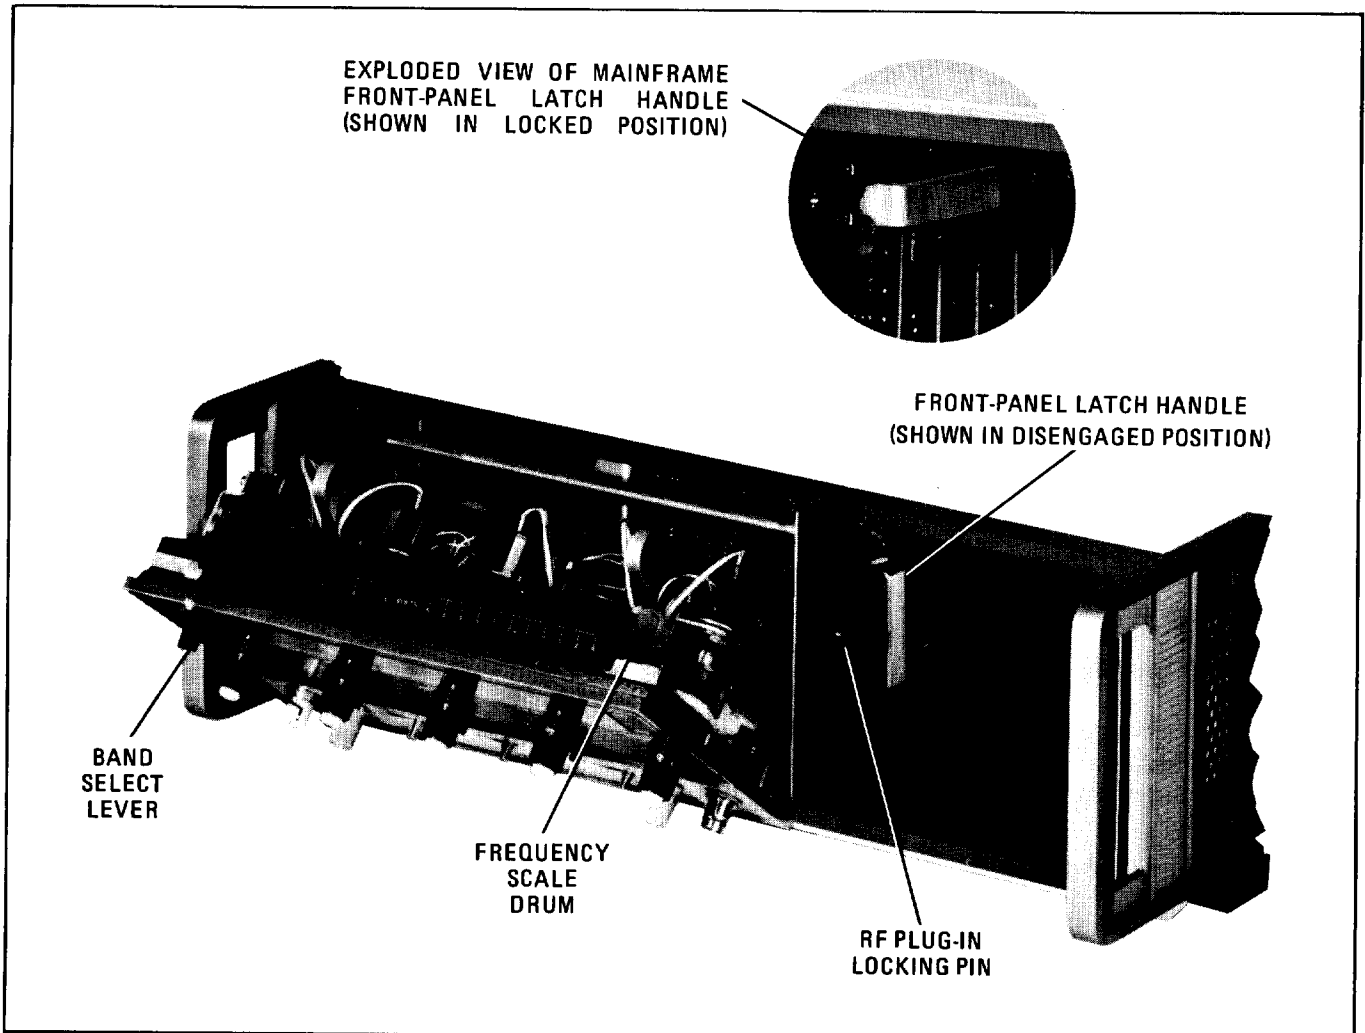

Figure 2-1. Location of Mainframe Parts Pertinent to Frequency Scale and RF Plug-In Installation
**If mainframe has two screws on top of the front panel (See Figure 2-1), RF Plug-In does not have to be removed. Remove both screws and go to step b.**
- a. Disengage mainframe front-panel latch handle, shown in Figure 2-1, by pushing downward on handle while pushing inward lightly on top of front panel.
- c. Depress mainframe front-panel BAND select lever, shown in Figure 2-1, to rotate frequency scale drum until desired scale position is accessible.
- f. Return front panel to upright (closed) position. If front panel was secured with two screws (see Figure 2-1), replace screws. If not, while pushing inward lightly on top of front panel, re-engage front-panel latch handle by pushing it upward to lock position as shown in Figure 2-1, exploded view.
- c. Slide RF Plug-In into mainframe towards rear of compartment. RF Plug-In latch handle will engage a locking pin, shown in Figure 2-1, inside mainframe and exposed portion of latch handle will start to move downward.
- b. When exposed portion of latch handle is in a position perpendicular to RF Plug-In front panel, it is disengaged from locking pin (Figure 2-1) and RF Plug-In may be removed by pulling forward on latch handle.